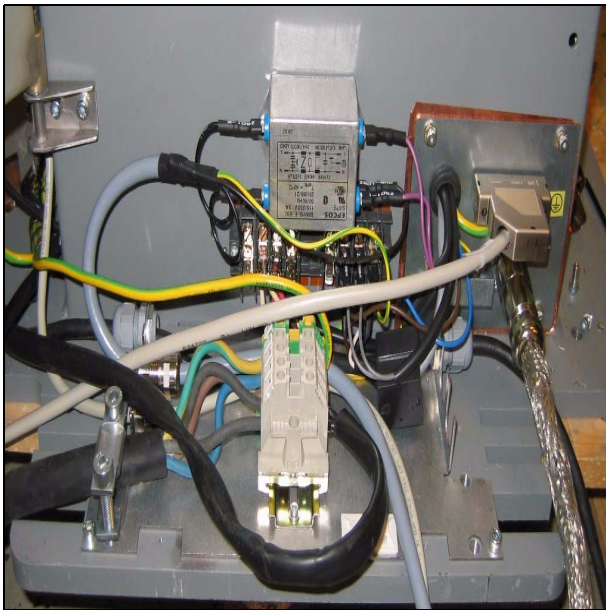

Fig. 4
- Restore the mains cable strain relief and the mains input connector on the Cable Socket according to Fig. 4.